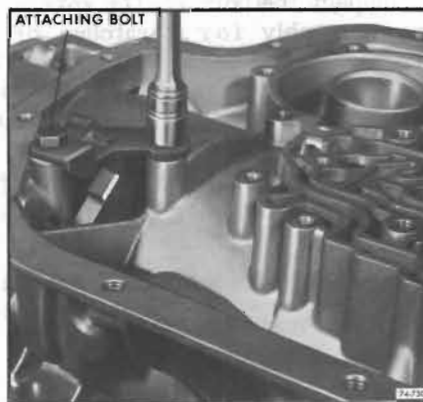

Figure 74-750
5. Install the parking brake bracket, guides over parking pawl, using two attaching bolts torque to 15-20 ft. lbs. See Figure 74-750.